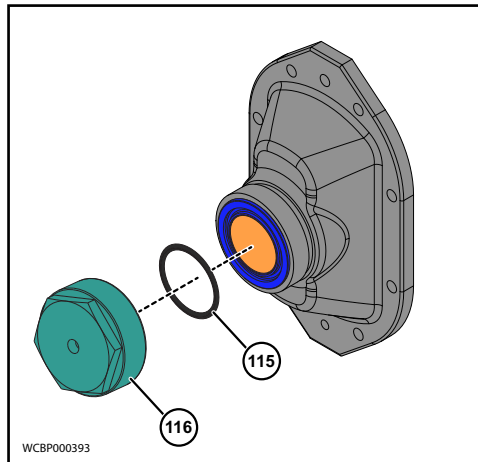

Figure 101 - Remove Cover Nut
1. Remove the Cover nut (116) then remove and discard the O-ring (115) from the Cover nut (116) as shown in Figure 101.